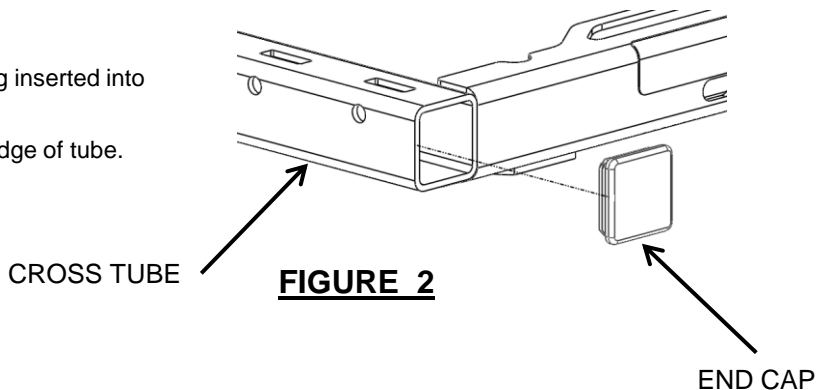

FIGURE 2
1. Orient end cap as shown (fig 2), with ribs being inserted into cross tube.